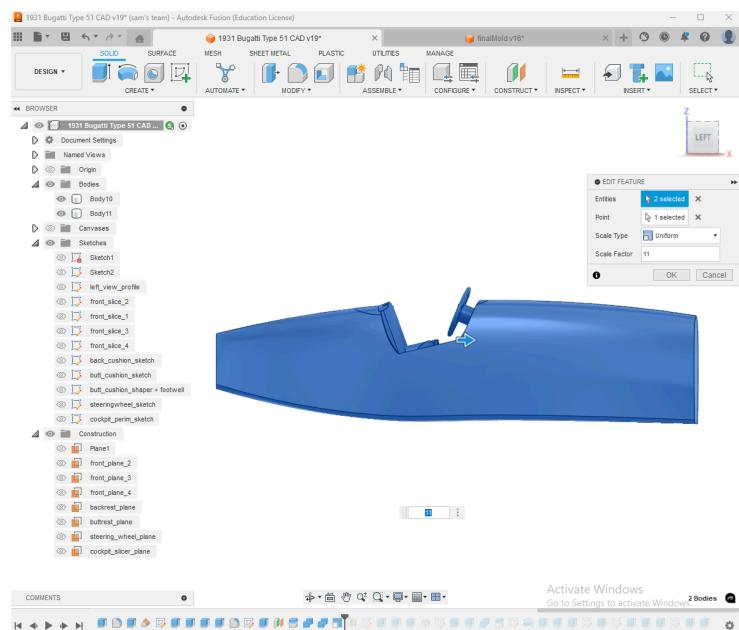

Fig. 23: Finished car body, with split fuselage reunited together using combine feature
4. Now that the majority of the body is designed, scale the car body up to the final size. Your car must fit in a mold with outer dimensions of 6.25in x 2.25in x 2.25 in. Scale the car to be as large as possible while still fitting inside the dimension constraint. This car was scaled 11x from its original dimensions to a max. length of 5.7in, a max. width of 1.25in, and a max. height of 1.5in. See **Fig. 23** for an example of the united fuselage.